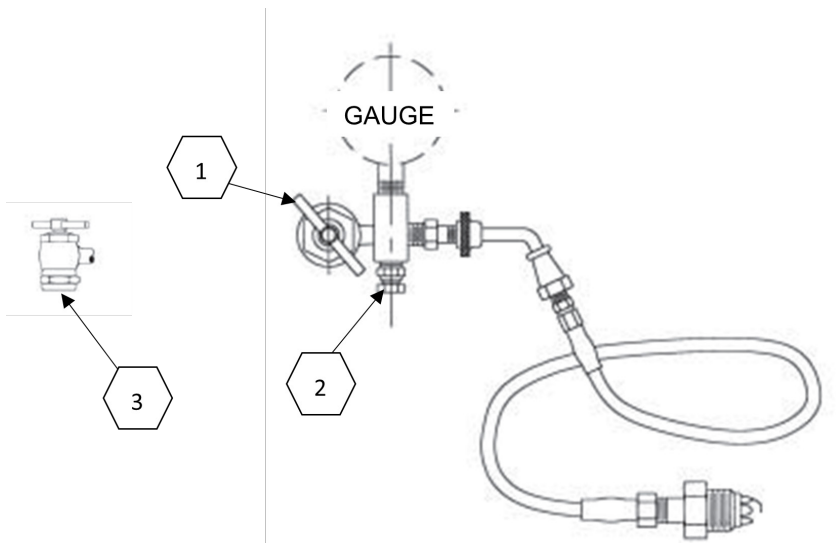
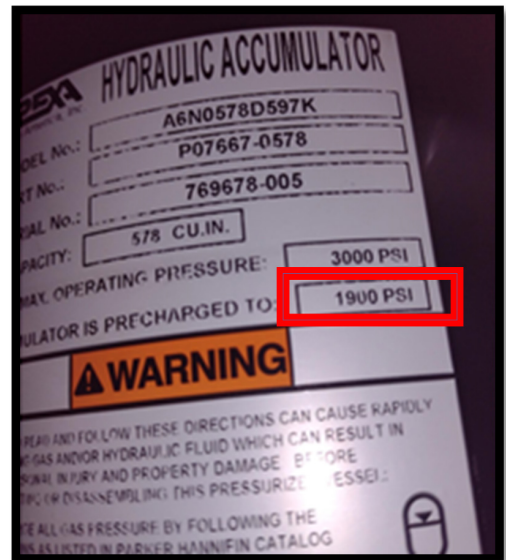

Figure 3
Figure 4
3. Add nitrogen using appropriate charge kit (REXA part number K09851-3000). See Figure 3 below. Using the Pre-Charging Procedure on the next page, add nitrogen until the pressure reaches what is shown on the bottle tag. See Figure 4.
- Back out the gas chuck "T" handle (Figure 3: Item 1) all the way (counter-clockwise) before attaching charging assembly to accumulator gas valve.
- Close the bleed valve (Figure 3: Item 2)
- Attach swivel nut (Figure 3: Item 3) to gas valve and tighten (10-15 in. lb. [11.5-17 cm kg]). Make sure not to loop or twist the hose.